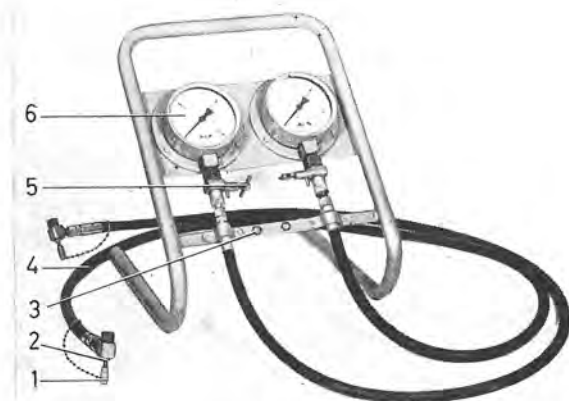

Fig. 5-2. Testing device 2741
The testing device (Fig. 5-2) is used, for example, to trace faults in the brake system.
2. Remove inner and upper, also outer venting nipples at one of the front brake calipers and connect up the testing device 2741 shown in Fig. 5-2.